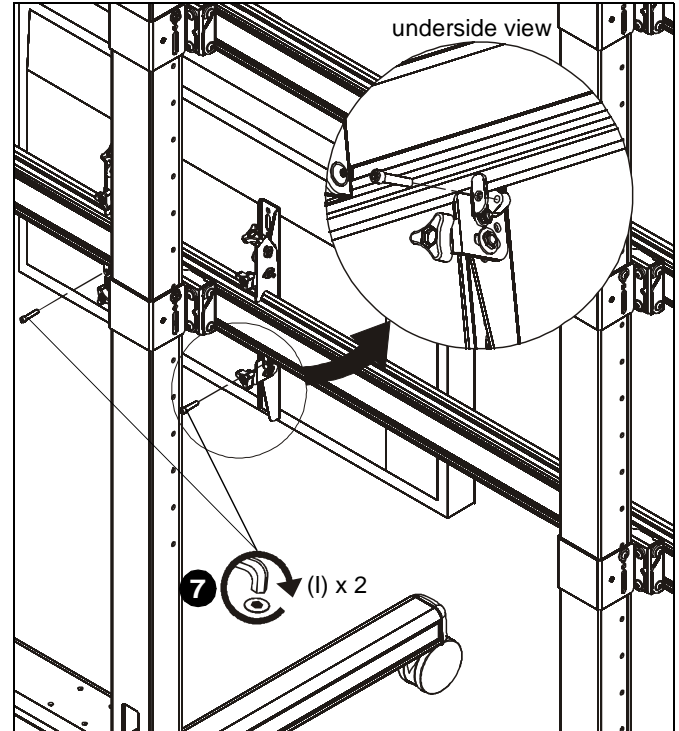

Figure 19
- Use 1/4-20 x 1 1/4" socket head cap screws (I) to secure interface brackets (AA and BB) to rails for each display. Screws must engage through both holes to be fully secured. (See Figure 19)